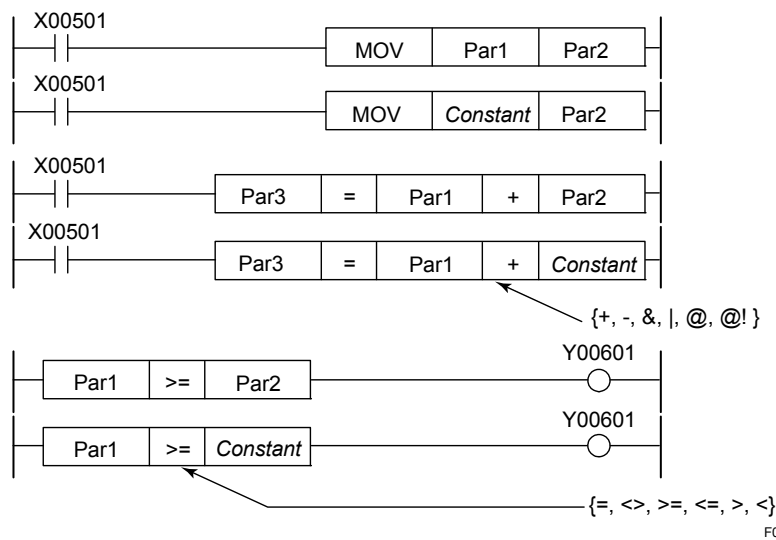

Figure 1.9.1 Parameter Specification Conditions for High-speed Application Instructions
(1) When Par1, Par2, and Par3 in Figure 1.9.1 are bit devices (X, Y, I, E, L, H, and M)
(2) When Par1, Par2, and Par3 in Figure 1.9.1 below are word devices (D, R, W, Z, T, C, and A) excluding file registers (B)
- When using link registers (W), use W1 to W1024.